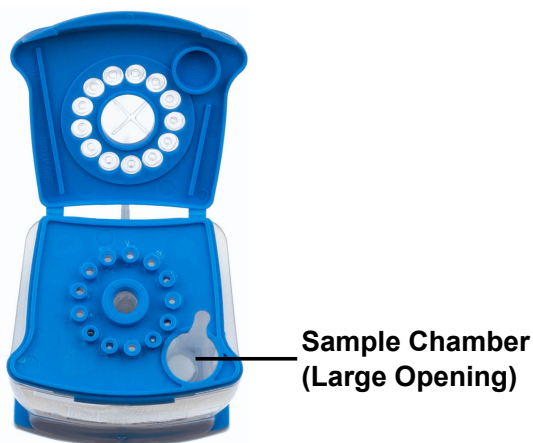

Figure 22. Xpert Xpress CoV-2 plus Cartridge (Top View)
15. To transfer the sample to the cartridge, squeeze the top bulb of the pipette completely again until it is fully flat to empty the contents of the pipette (300 μ L) into the large opening (Sample Chamber) of the cartridge shown in Figure 22. Some liquid may remain in the overflow reservoir. Dispose of the used pipette.